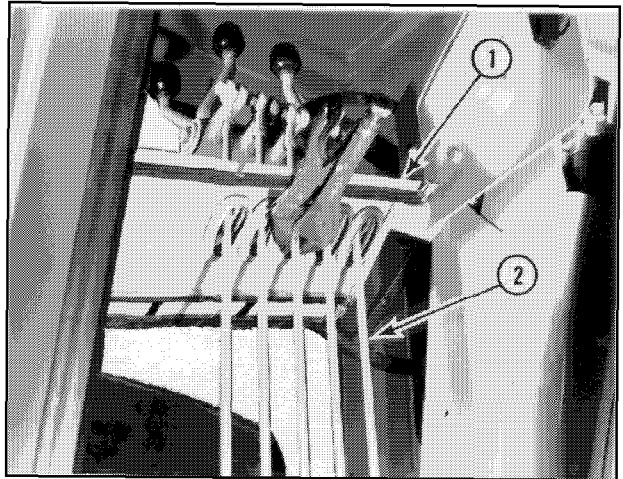

Figure 9
5. Slide cover assembly (1, Figure 9) up control lever rods (2). Use locking pliers to prevent cover assembly from falling.